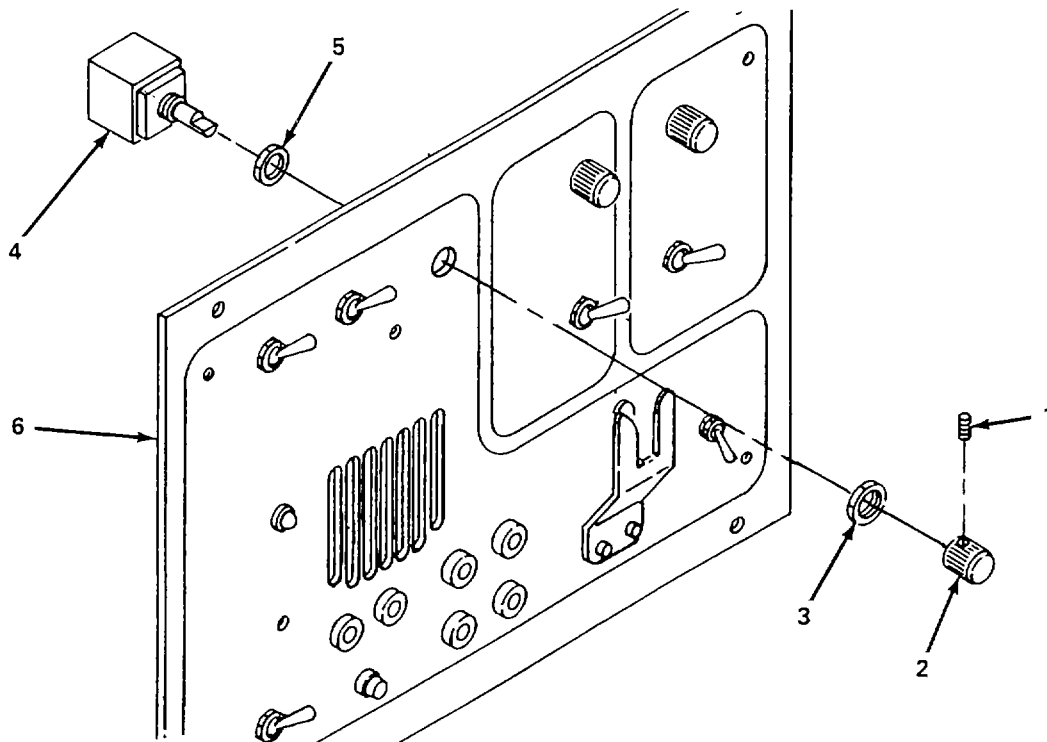

Figure 5-33. Front Panel Chassis Assembly Potentiometer and Rheostat, Replace.
(2) *Replace potentiometer and rheostats.* (figure 5-33)